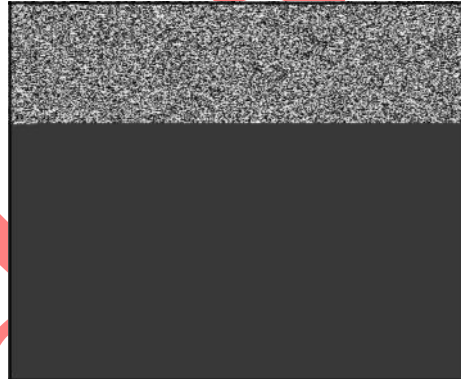

Figure 50
4. Install new throttle shaft seal (**C**, Figure 50) with sealing lip down in carburetor body until top of seal is flush with top of carburetor (**D**). Install new foam seal (**B**) on throttle shaft, then slide shaft into carburetor body. Rotate shaft until flat is facing out. Position throttle valve (**E**) on flat with numbers facing out, then install screws. Actuate the throttle shaft to check for proper movement.